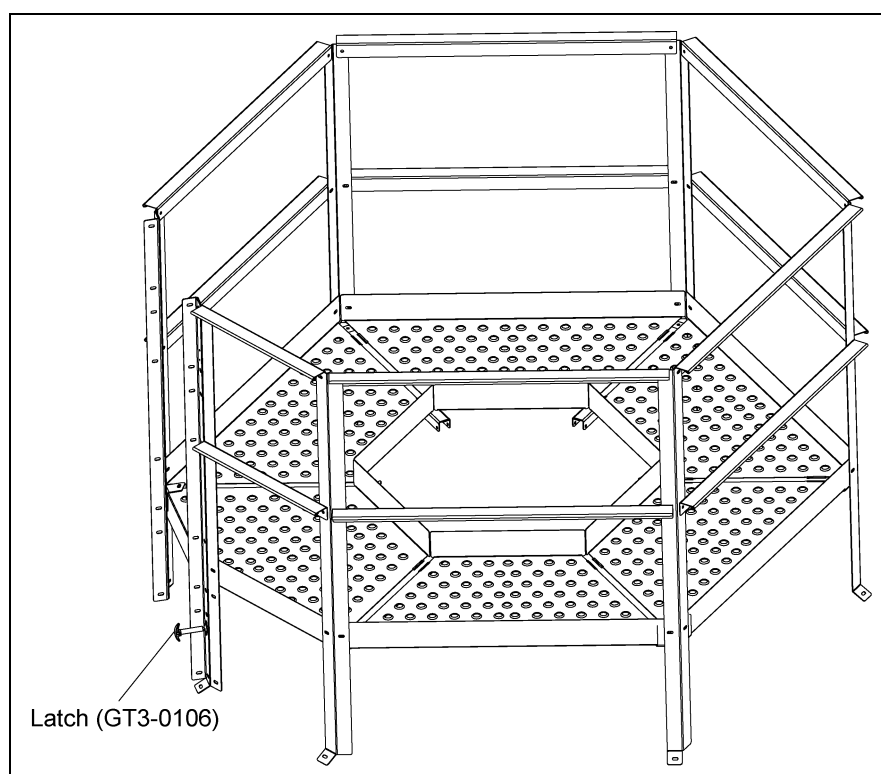

Figure 3L
11. Assemble latch (GT3-0106) as shown using screws (S-2009) and nuts (S-2010). (See Figure 3L.)